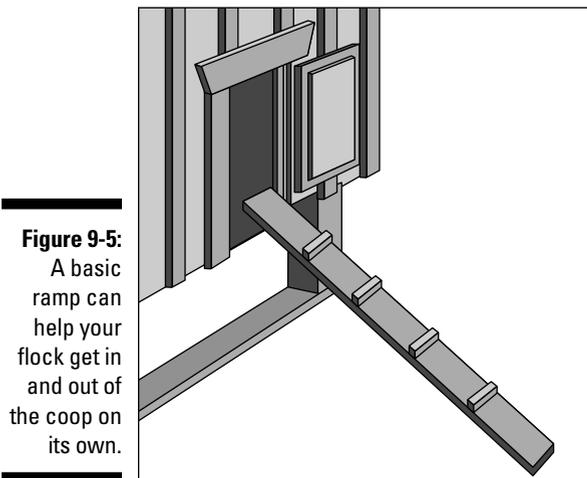

Figure 9-5:
The majority of chicken caretakers employ a basic ramp to help their birds get in and out of the coop. As shown in Figure 9-5, it's just a board that stretches from the door to the ground. It's a great way to use up a long piece of scrap from the coop build. (A fence board, usually about 1x8, is the perfect size and can be purchased in easy-to-work-with lengths of 5, 6, and 8 feet.)
- ✓ **Rig up some rungs:** Most coop-builders add rungs to their ramp that run crossways (refer to Figure 9-5), giving the birds steps to grip with their toes. Again, almost any scrap pieces of lumber leftover from the build will do the trick. How far apart you space your rungs will depend on the angle of the ramp and your birds; you may find that you need to add more rungs if they're having a tough time. (Use screws instead of nails to fasten them; they'll be easier to pull up and reposition as needed.)